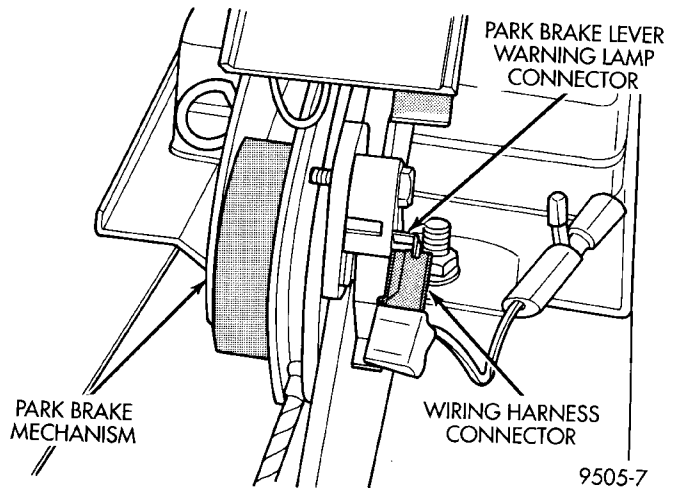
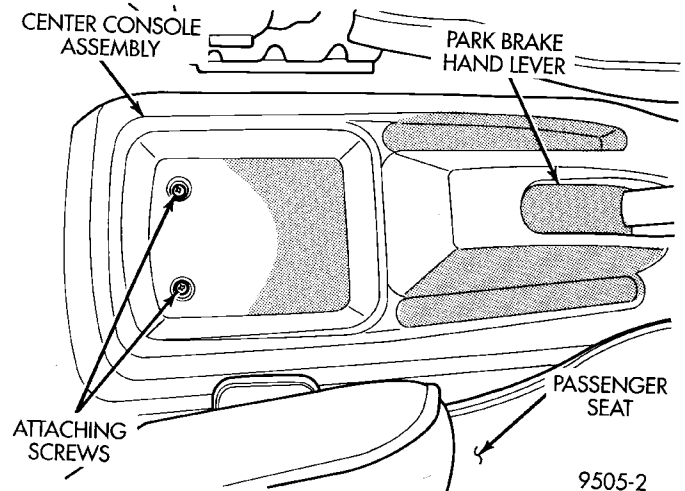
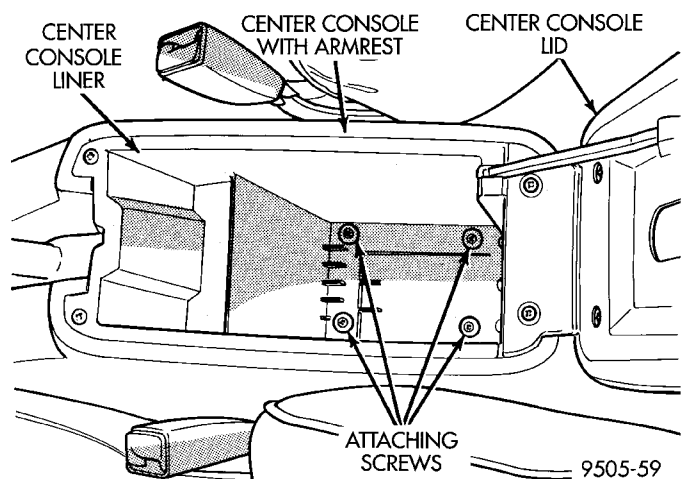
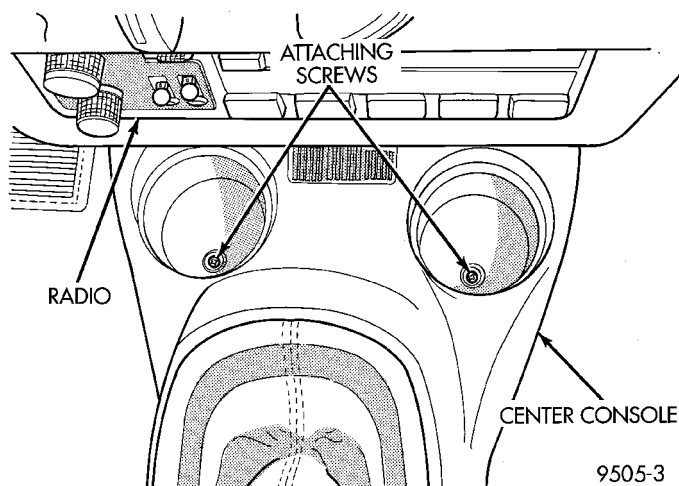

Fig. 17 Brake Warning Lamp Connection To Park Brake Lever
Fig. 18 Attaching Screws At Rear Of Center Console With/Without Arm Rest
Fig. 19 Attaching Screws At Rear Of Center Console With Arm Rest
Fig. 20 Attaching Screws At Front Of Center Console
(8) Connect electrical connector for brake warning lamp onto terminal on park brake lever assembly (Fig. 17).
(9) Cycle park brake lever once to position park brake cables. Then return the park brake lever its released position. Check the rear wheels of the vehicle. They should rotate freely without dragging.
(10) Raise park brake lever to its fully engaged position. This is necessary to allow installation of the center console.
(11) Install center console assembly.
(12) Install the four center console assembly attaching screws (Fig. 18), (Fig. 19) and (Fig. 20).
(13) Replace shifter knob and fastener.
(14) Do not connect battery negative cable. Refer to Diagnosis and Testing for Airbag System Test for the proper procedures.